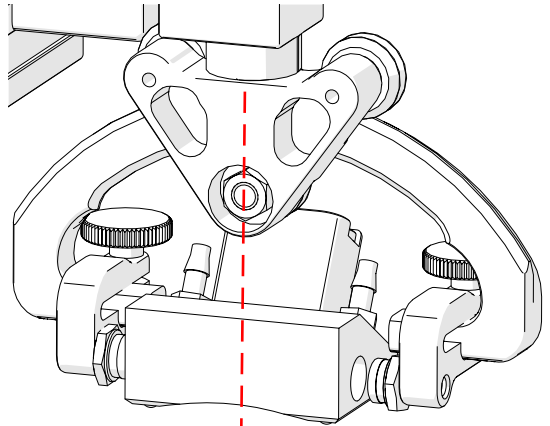

Fig. 46 - Align probe
5. Align the probe with the centre of the yoke pivot (Fig. 46).